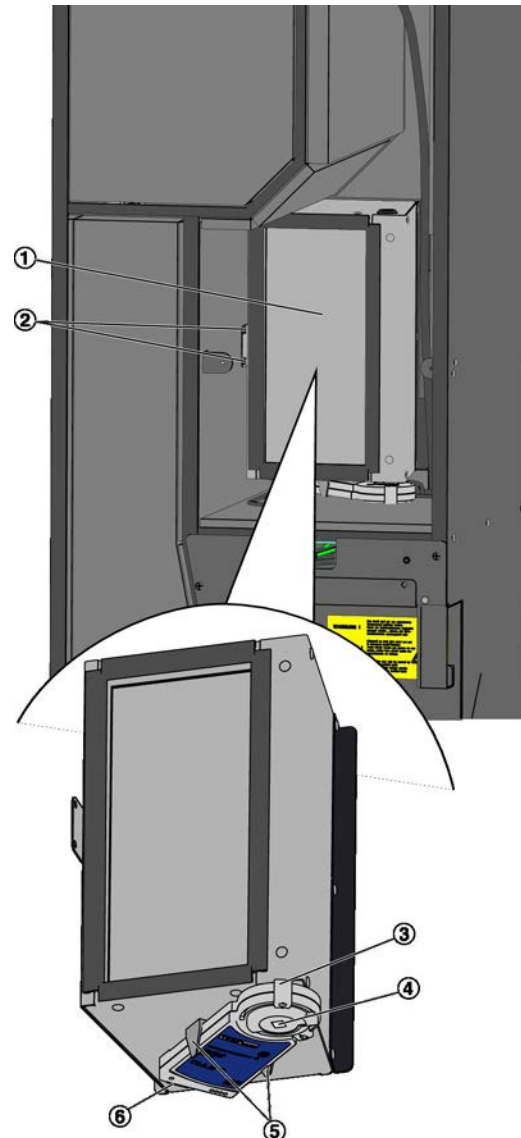

Fig. 30: Replacing an actuator
4. ▶ Loosen the two Phillips screws (Fig. 30/2).
5. ▶ Remove the entire exhaust air damper assembly (Fig. 30/1).
6. ▶ Pull the connection plug (Fig. 30/6) off the actuator (Fig. 30/3).
7. ▶ Release the actuator from the retaining bracket (Fig. 30/5) and fit a new actuator.